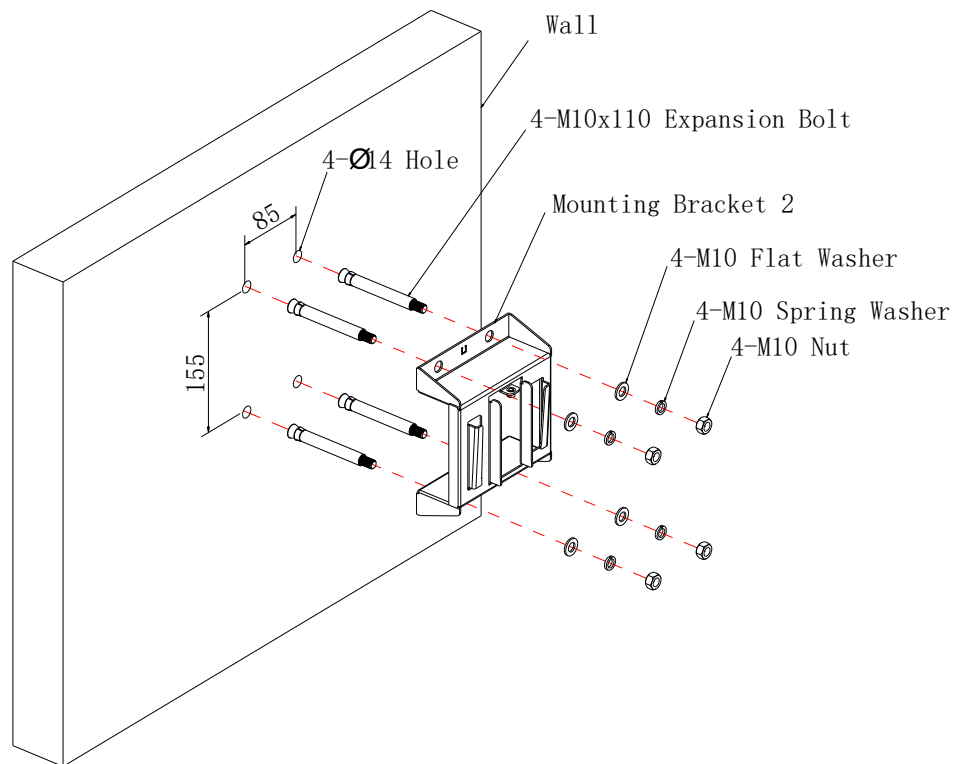

Figure 2.5.6 Mounting Bracket 2 Installation Diagram
Step 3: use hammer push 4 M10 \times 110 expansion bolt into the hole on the wall, fix the mounting bracket 2(RRH-3522-5832) to the wall according to the Figure 2.5.6.